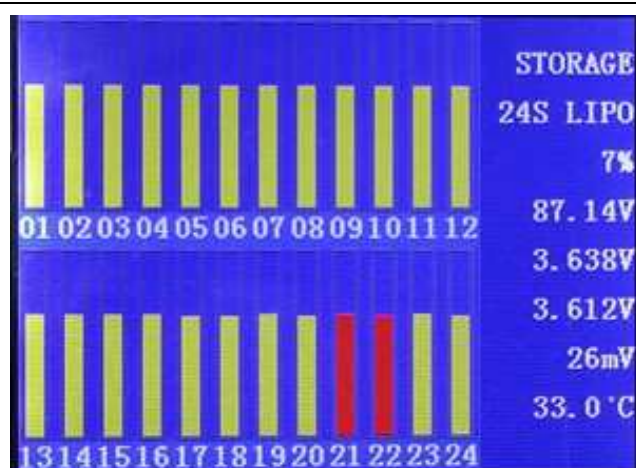

figure 1
5. The following interface figure 1 is the cell voltage bar graph, the highest and the lowest cell voltage is displayed in RED column. The images below are taken from a BMS24T as an example.